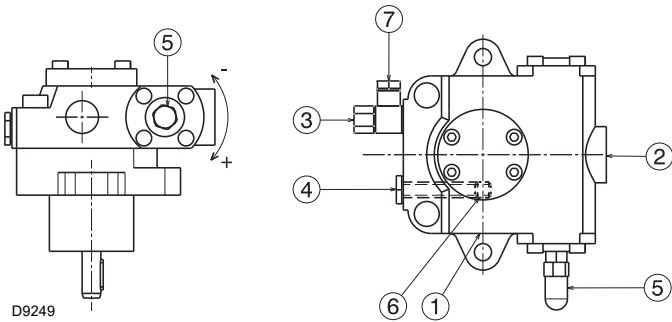

Fig. 23
They are installed on the burner with the by-pass closed by screw 6)(Fig. 23 on page 28).
- In order for the pump (Fig. 23) to self-prime, it is vital that the screw 4) of the pump be loosened to vent the air contained in the suction line.
Key (Fig. 23)
The a.m. operation is possible because the pump is already full of fuel when it leaves the factory. If the pump has been drained, fill it with fuel through the opening on the vacuumeter 4)(Fig. 23 on page 28) prior to starting; otherwise, the pump will seize.